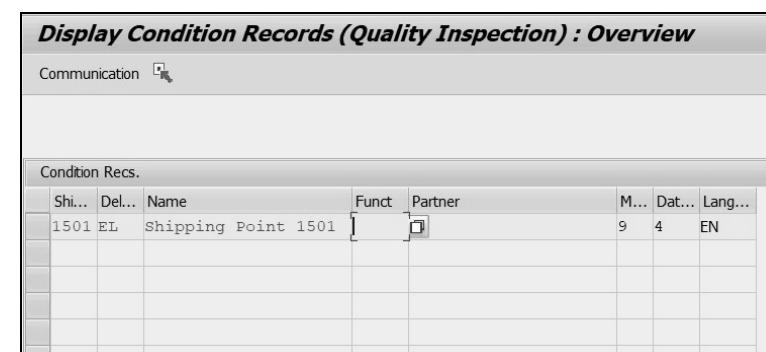
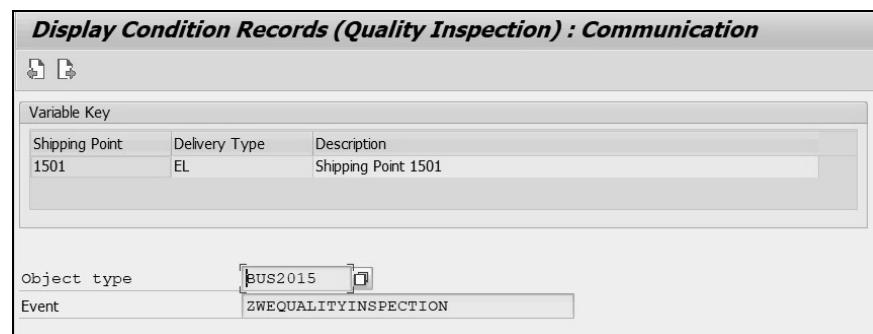

Figure 5.21 Condition Record Maintenance for Custom Output Type
Figure 5.22 Enter the Communication Data for the Condition Record with BOR Type and Event
5. Maintain the condition record for the output type in your test client, as shown in Figure 5.21. You can navigate to this screen by clicking on the condition records button in Transaction NACE; then choose your output type and enter the appropriate criteria per your access sequence definition. In the condition record, you must enter the transmission medium as "9".
6. Maintain the object type and event under the **Communication** tab, as shown in Figure 5.22. To navigate here, click on the **Communication** button on the application toolbar of the condition record screen shown previously in Figure 5.21.